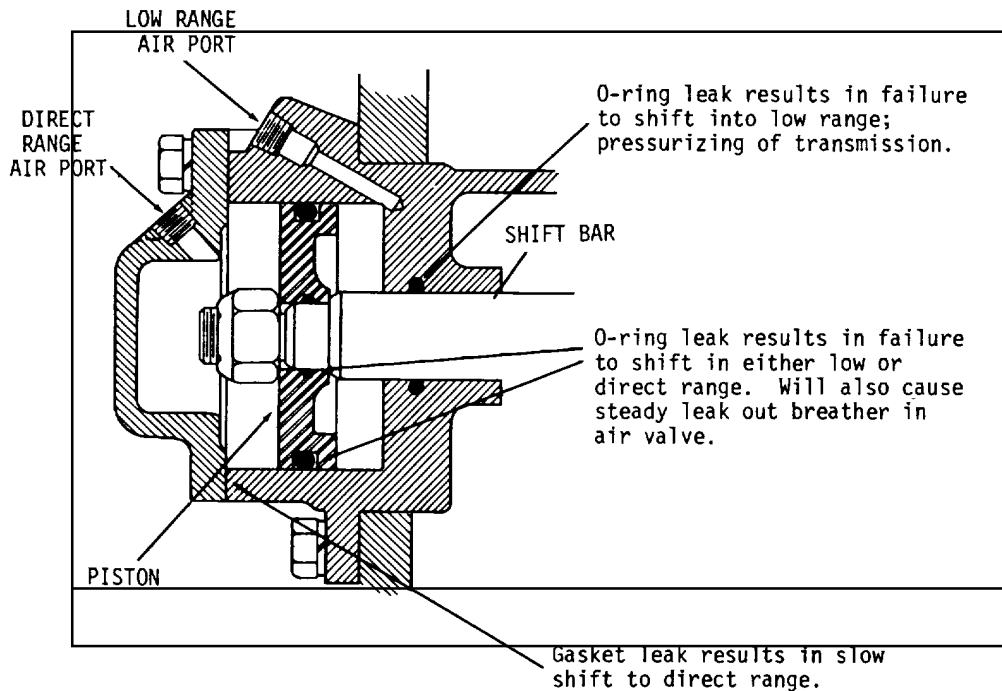

Fig. 2 Range Shift Cylinder
- (1) If there is a steady leak out exhaust of control valve, there are defective parts or 'O' rings in the control valve.
- (2) If there is a steady leak out breather on air valve: there is a defective 'O' ring in the air valve; or there is a leak past 'O' rings on the shift cylinder piston (see check point E and Fig. 2).
- (3) If transmission fails to shift into low range or is slow to make the shift and the transmission case is pressurized, see check point E and Fig. 2.
- (4) Tighten all loose connections and replace defective parts or 'O' rings.
- (1) Repeat procedure under check point C, reversing the position of the control button, in order to check the low range operation.
- (g) Range Shift Cylinder (see check point E): If any of the seals in the range shift cylinder are defective, the range shift will be affected. The degree of lost air will govern the degree of failure, from slow shift to complete failure to shift. Refer to Fig. 2 for location of seals. Make sure cylinder bore is clean to prevent damage to shellac or Permatex on cover gasket to prevent clogging cylinder. Tighten cover capscrews securely.